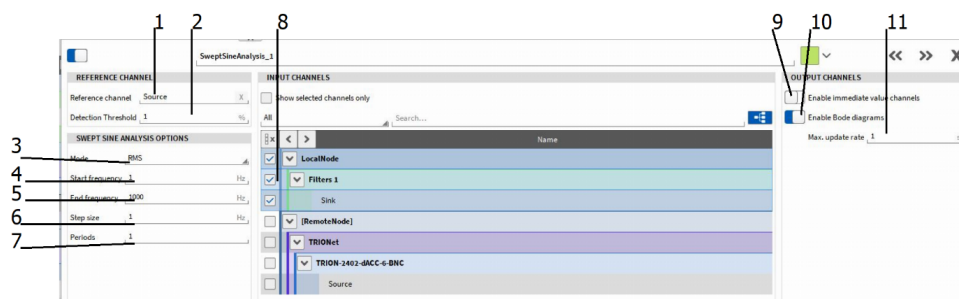

Fig. 7.133: Swept Sine Analysis setup – overview
- *ChannelName\_iRMS* or *ChannelName\_iPeak*: Time domain channel; Contains the amplitude (RMS or Zero-to-Peak level depending on the selection in ③ in Fig. 7.133) of the signal at the actual frequency; The amplitude is only referring to the fundamental frequency signal components; Can be assigned to a Recorder (see Recorder), Digital Meter (see Digital meter) or similar.
- *ChannelName\_iUFRMS* or *ChannelName\_iUFPeak*: Time domain channel; Contains the amplitude (RMS or Zero-to-Peak level depending on the selection in ③ in Fig. 7.133) of the signal at
- *ChannelName\_RMS* or *ChannelName\_Peak*: Frequency domain channel; Contains the transfer function (RMS or Zero-to-Peak level depending on the selection in ③ in Fig. 7.133); The amplitude is referring to the fundamental frequency signal components; Can be assigned to a Spectrum Analyzer (see Spectrum analyzer) instrument for displaying the data.
- *ChannelName\_UFRMS* or *ChannelName\_UFPeak*: Frequency domain channel; Contains the transfer function (RMS or Zero-to-Peak level depending on the selection in ③ in Fig. 7.133); The amplitude is referring to the entire signal components; Can be assigned to a Spectrum Analyzer (see Spectrum analyzer) instrument for displaying the data.